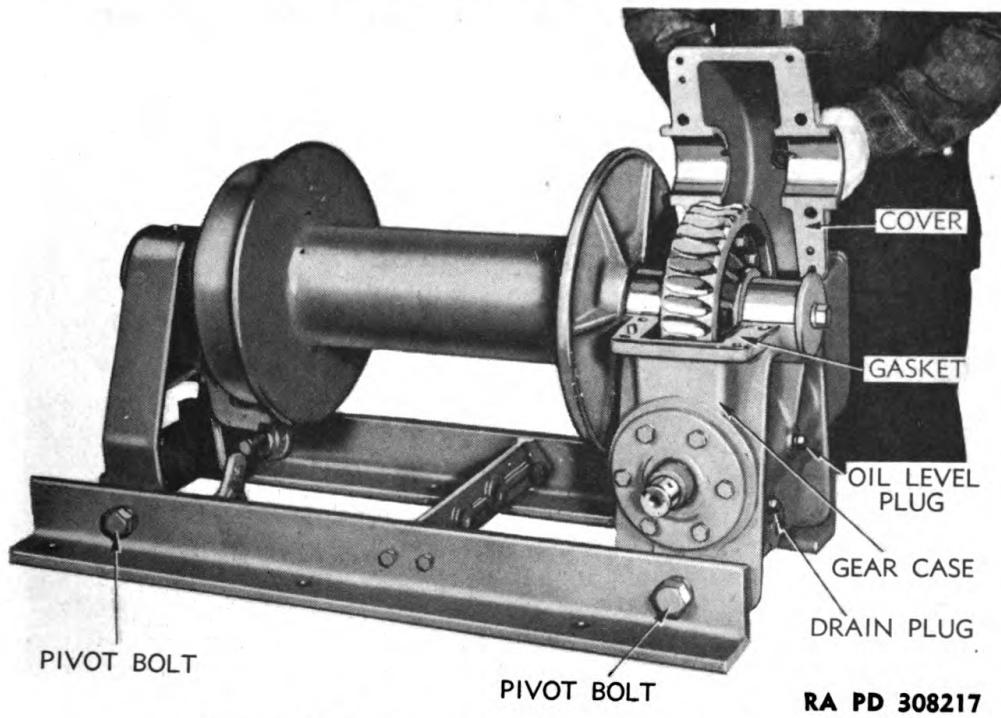
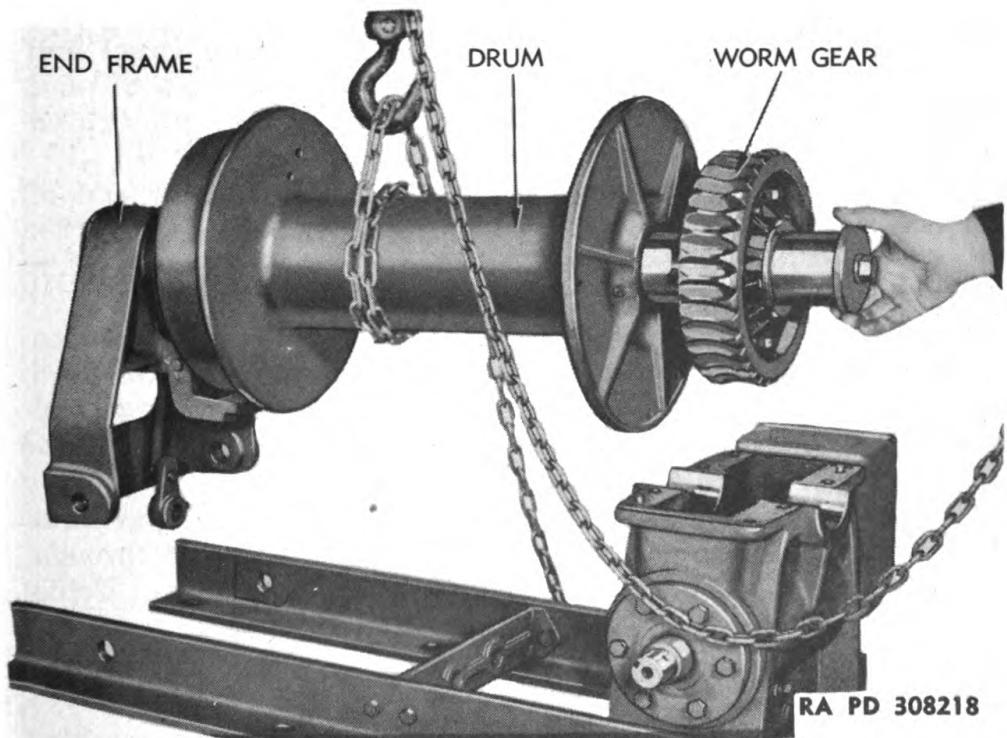

Figure 115 – Removing Gear Case Cover
Figure 116 – Removing Drum Shaft and End Frame Assembly
c. Remove Winch Drum and Shaft Assembly. Turn winch right side up. Remove eight bolts from gear case and cover and lift cover from gear case (fig. 115). Remove the two pivot bolts from end frame and winch base angles, attach hoist and chain to winch drum, and lift drum shaft assembly and end frame from base (fig. 116).
(1) Remove drain plug from gear case (fig. 115) and drain oil from case. Replace plug after oil is drained.
(1) Lift assembly with chain hoist, then lower assembly into winch base and gear case (fig. 116). Turn drum shaft bushings at gear end of shaft so dowel holes in bushings will register with dowels in bushing recesses in gear case. The larger holes in bushings are for passage of grease and must be at top.
(3) Coat both sides of gear case cover gaskets with shellac and install cover on gear case (fig. 115) with four bolts close to shaft and four bolts in corners of cover and gear case.